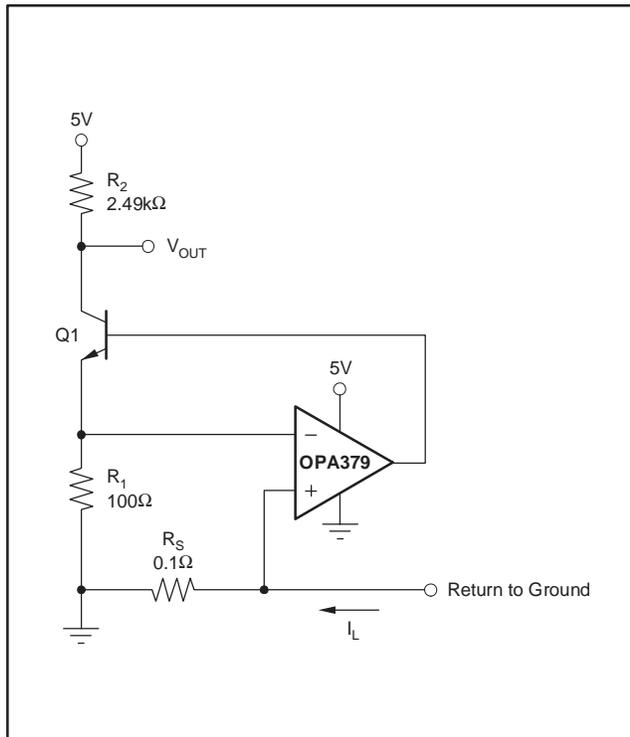

Figure 5. Low-Side Current Monitor
The micropower OPA379 is well suited for current monitoring circuits in applications such as a voltage regulator with fold-back current limiting, or a high-current power supply with crowbar protection. Figure 5 shows the OPA379 monitoring the current in a power-supply return path using a 0.1Ω shunt resistor. The NPN transistor, Q1 (2N2222 or equivalent) is used to generate equal voltages at the inverting and noninverting inputs. Therefore, the voltage drops across R₁ and R_S are equal, and the current flowing through Q1 is directly proportional to the current flowing through R_S. As the load current increases, the current through Q1 increases, the voltage drop across R₂ increases, and this decreases the output voltage, V_{OUT}, as shown in Equation (5):